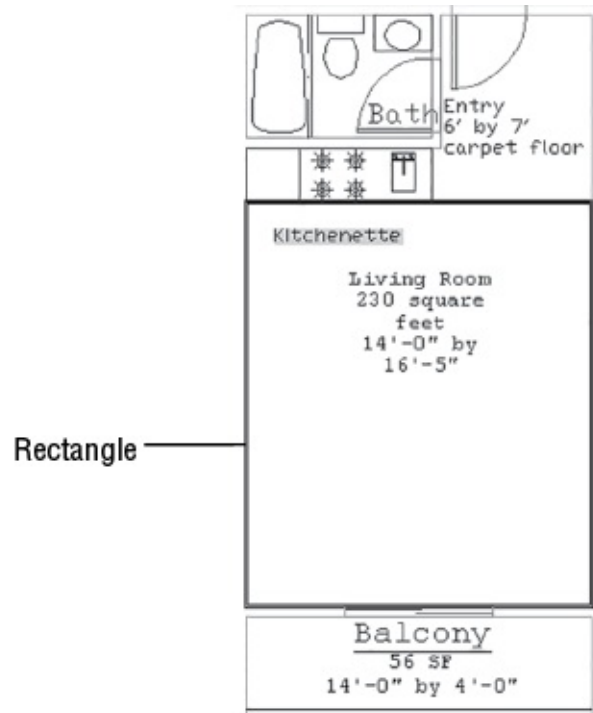

FIGURE 10.2 Place a rectangle that fills the living room.
2. Use the Rectangle command to place a rectangle in the living room area, as shown in Figure 10.2.